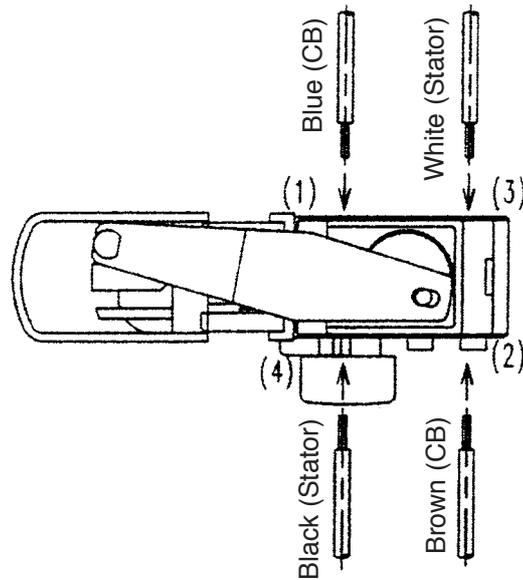

Fig. 21 Wiring of reversing switch
(1) Wiring of reversing switch
Insert the lead wire (black) coming from the stator into the terminal (4) of the reversing switch, and the lead wire (white) into the terminal (3) as shown in Fig. 21. Insert the lead wire (brown) coming from the carbon brush or choke coil into the terminal (2) and the lead wire (blue) into the terminal (1). After the insertion, pull each lead wire slightly to check the lead wires do not come off. To disconnect the lead wires, insert a small flat-blade screwdriver into the windows near the terminals and pull out the lead wires.